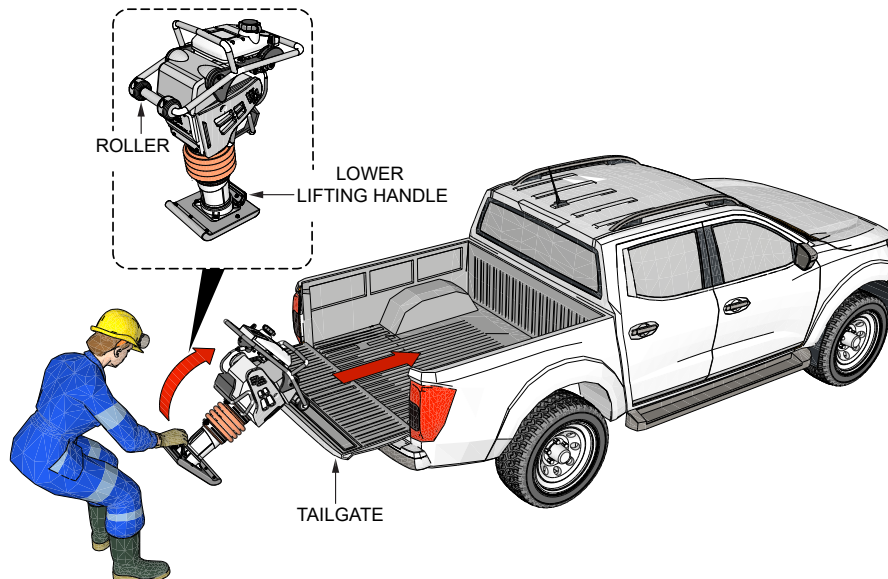

Figure 4. Loading Rammer Onto Truck Bed
1. Tilt rammer so that the roller makes contact with the edge of the truck tail gate as shown in Figure 4.